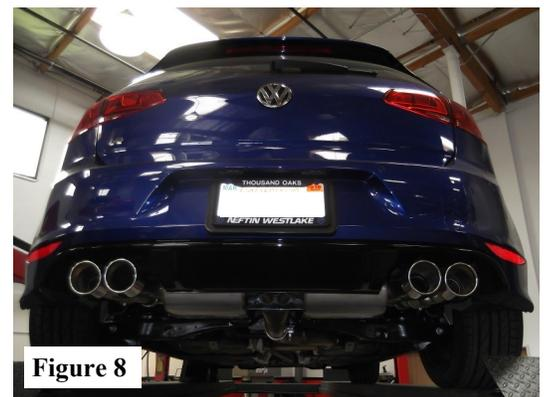

Figure 8
5. Check your exhaust system for proper clearance under the vehicle and also for tip alignment. Once position has been determined to be correct, tighten the Accuseal™ clamp bolts to 32-35 ft. lbs. (See Fig. 8)